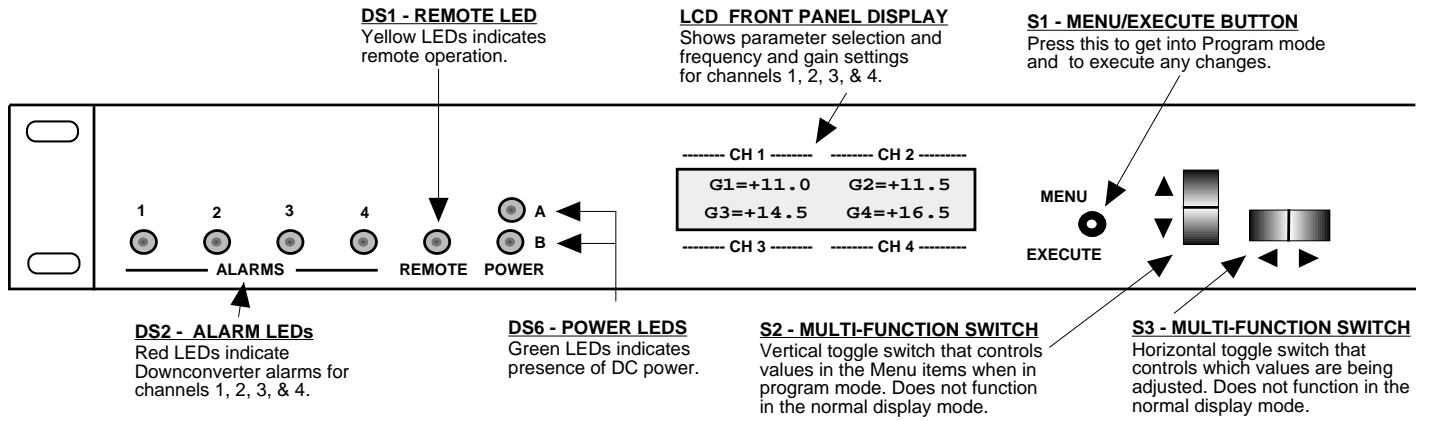

FIGURE 2.3 2483-40311 Front Panel Controls and Indicators
5. Be sure DS6 (green, DC Power, PSA, PSB) is on and DS2 (red, Alarm) is off (Figure 2.3).
1. Menu/Execute - Any change to the programming of the unit must be initiated by pressing the Menu/Execute switch and completed by pressing the Menu/Execute switch (Figure 2.3).
2. Horizontal Switch - This switch is mounted so its movement is horizontal and moves the cursor left or right (Figure 2.3).
- a. During frequency, gain changes, the vertical movement will raise or lower the number in the direction of the arrows (Figure 2.3).